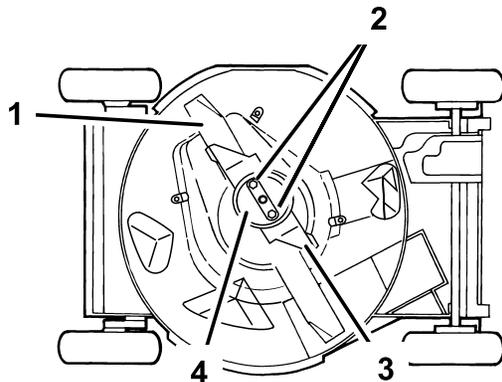

Figure 31
4. Tip the lawn mower onto its **right** side (Figure 31).
Grasp the end of the blade using a rag or a thickly padded glove. Remove the blade nuts, the anti-scalp cup, the accelerator, and the blade (Figure 31).
5. Remove 2 blade nuts, the anti-scalp cup, the accelerator, and the blade (Figure 31).